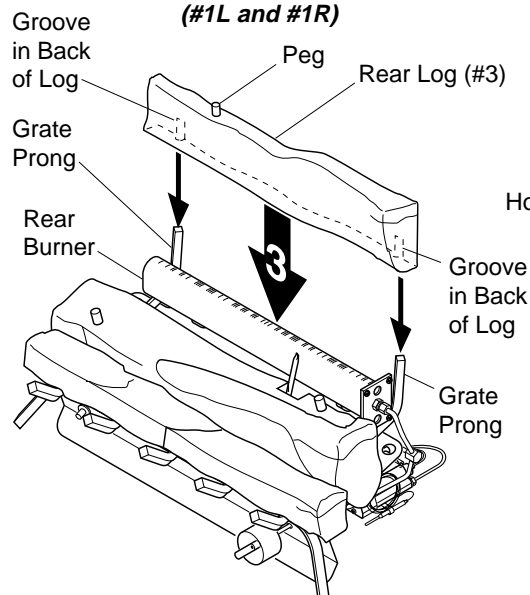

Figure 23 - Installing Rear Log (#3)
3. Slide the grooves in the back of the rear log (#3) against the rear grate prongs. Make sure the peg on the log is on top (see Figure 23).